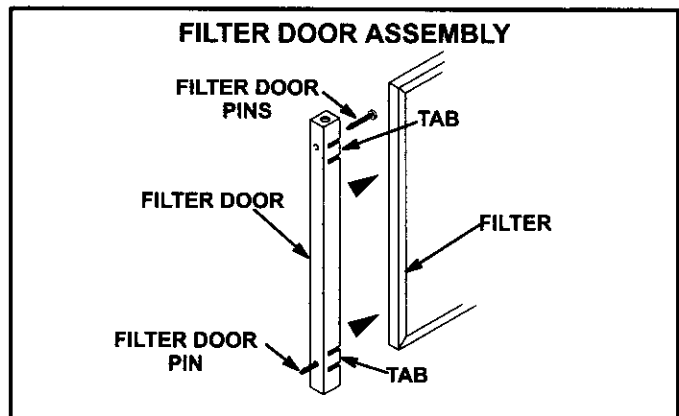

FIGURE 6
- 3 - Push filter door pins through the two holes in filter door from the inside of the u-channel. See figure 6.